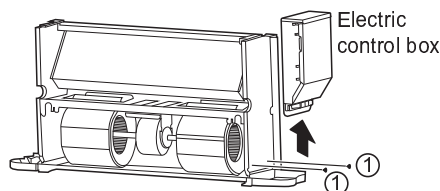

Figure 4-7 Removing the electric control box
- As shown in Figure 4-7, remove screws ①\*2 to remove the electric control box.